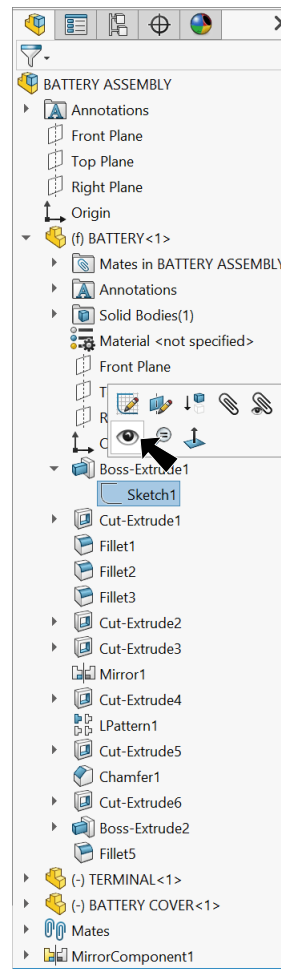

Fig. 13
Step 1. Show **Sketch1** of the **Battery** component. To show, expand **Battery** component in the Feature Manager, expand **Boss-Extrude1** and click **Sketch1**, then **Show** on the context toolbar, **Fig. 13**.